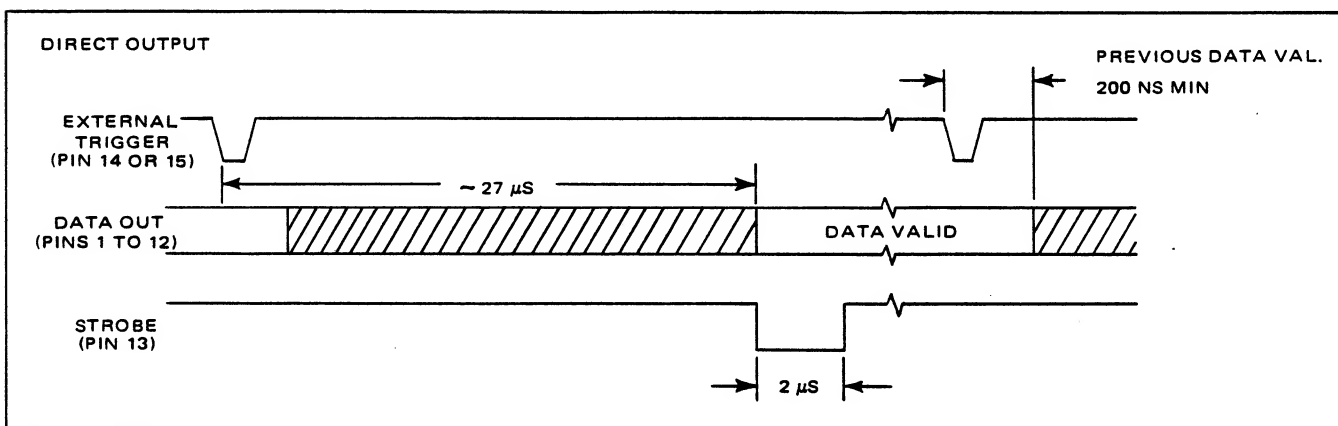
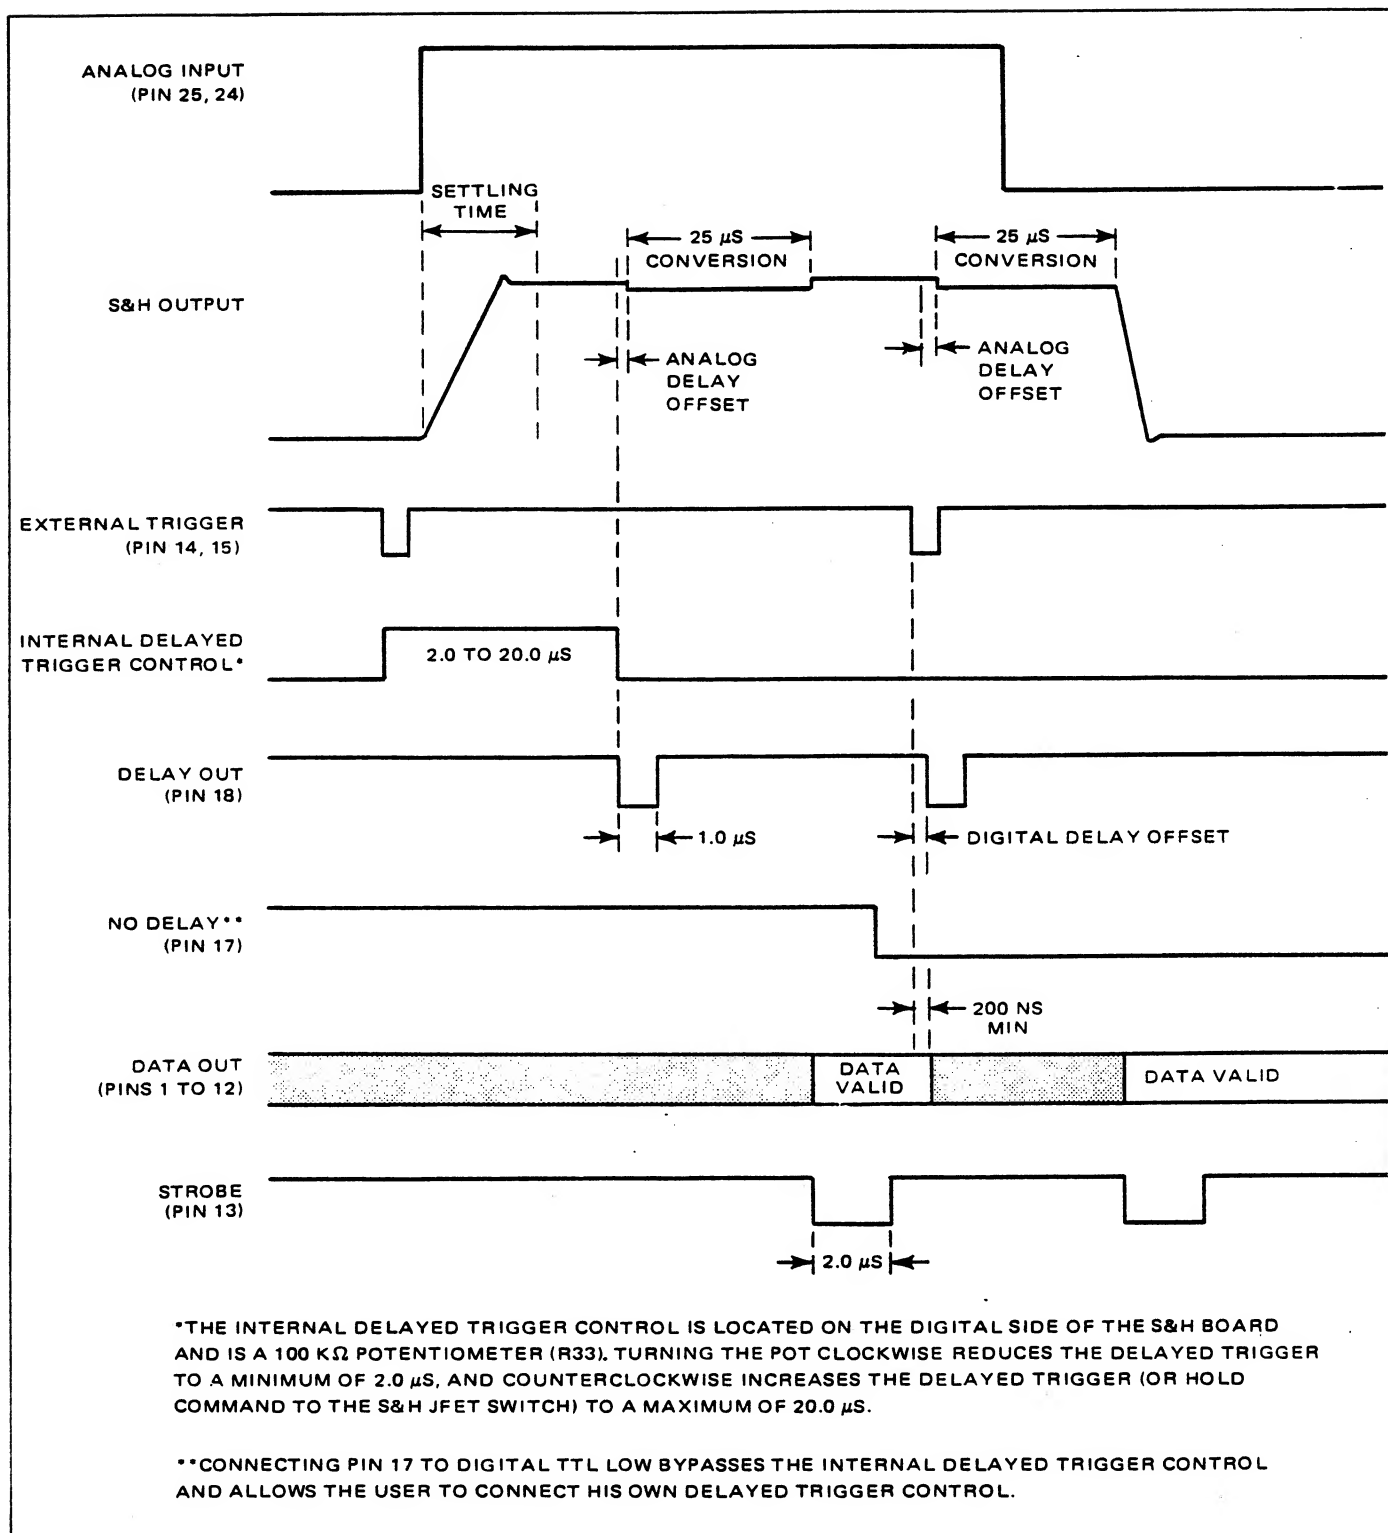
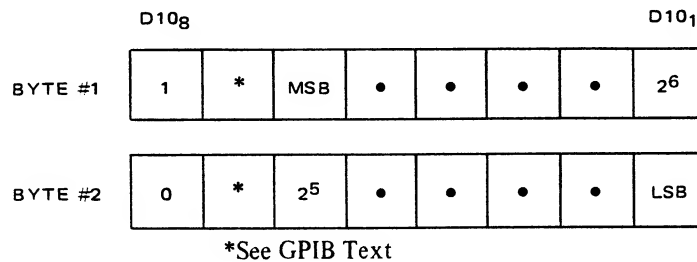

Figure 3.24 - Option 03 Output Waveforms
Figure 3.25 - Option 03 SH Output Waveforms
Figure 3.27 - GPIB Data Output Format (Options 03 and 03 SH)
3.6.6 Output waveforms for Option 03 are shown in Figure 3.24 and output waveforms for Option 03SH are shown in Figure 3.25. The GPIB data word format is the same for both Options 03 and 03SH (reference Figure 3.27). Table 3.21 provides an input voltage to octal data to binary data conversion. The octal data is displayed on the 6000 readout when the display is enabled. The binary data is outputted from the rear panel Fast A/D or Sample and Hold Fast A/D connector.